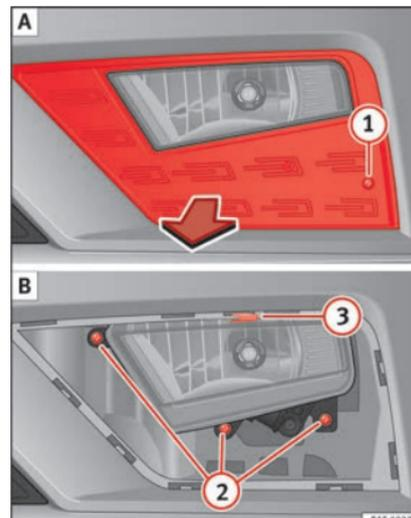
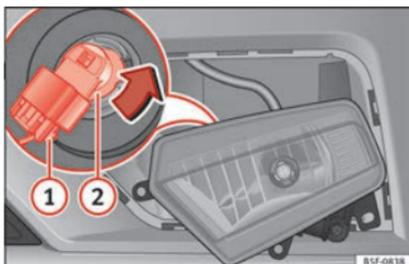

Fig. 109 Fog light: extracting the grille. »
Fig. 110 Fog light: remove the bulb holder
1. Remove the screw » **Fig. 109** ① **A** from the fog light grille using a screwdriver and extract the grille.
2. Remove the 3 screws » **Fig. 109** ② **B**.
3. Remove the metal clip situated on the upper part of the fog light by pulling away from the vehicle ③ **B** and extract the fog light.
4. Remove the connector » **Fig. 110** ① from the bulb.
5. Turn the bulb holder ② anti-clockwise and pull.